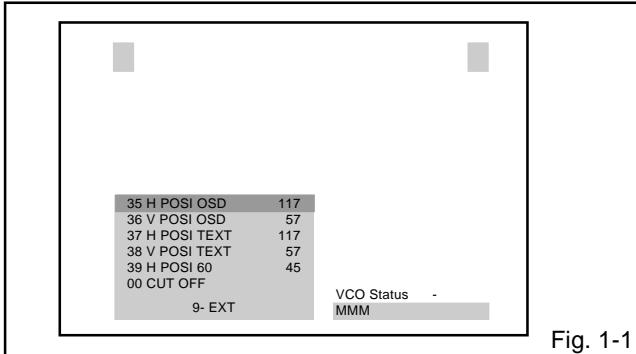

Fig. 1-1
1. In the condition of NO indication on the screen. Press the VOL. DOWN button on the set and the Channel button (9) on the remote control for more than 2 seconds to appear the adjustment mode on the screen as shown in Fig. 1-1.
3. Activate the adjustment mode display of **Fig. 1-1** and press the channel button **(13)** on the remote control to select "VCO COARSE".
4. Activate the adjustment mode display of **Fig. 1-1** and press the channel button **(01)** on the remote control to select "RF AGC".
4. Activate the adjustment mode display of **Fig. 1-1** and press the channel button **(00)** on the remote control to select "CUT OFF".
4. Activate the adjustment mode display of **Fig. 1-1** and press the channel button **(03)** on the remote control to select "R DRIVE".